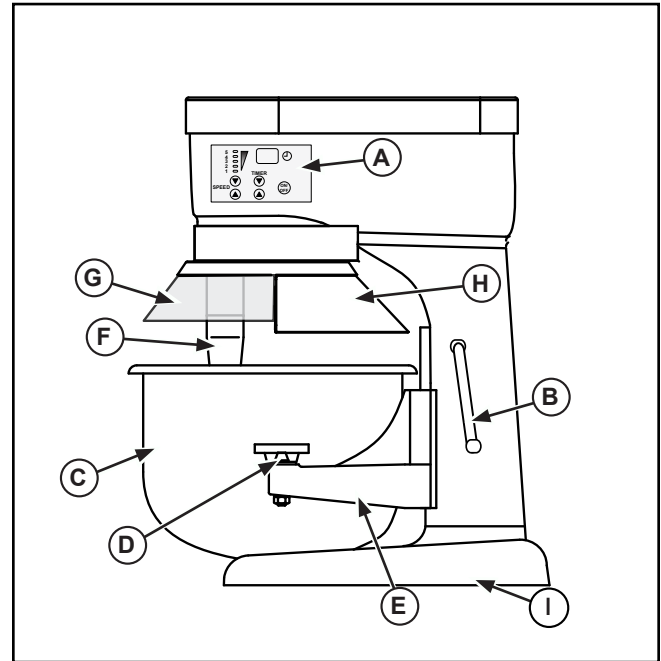

Figure 1. 7 Quart. and 10 Quart. Mixer, Features and Controls.
- Before attaching the bowl select the mixing attachment you will be using. Place your selected mixing attachment inside the empty bowl (C). Do not attempt to fit the mixing attachment onto the mixing shaft (F) before the bowl is in position. See Figures 1, 2, 3 or 4.
- Lower the bowl cradle to its lowest position by rotating the bowl lift (B) in a clockwise direction.
- Rotate the bowl clamp levers (D) to the out or back position.
- Hold the bowl (C) so that the pin on the bowl is facing in towards the mixer. Position the bowl so that the pin is lined up with the pin slot on the bowl cradle (E). Slide the pin into the slot.
- Align the holes on the bowl tabs with the pins on the bowl cradle (E). Set the bowl (C) on the bowl cradle (E).
- Rotate the bowl clamp levers (D) to the front over the bowl tabs to secure the bowl (C) onto the bowl cradle (E).
- Install the attachment to the mixing shaft (F). Ailing the groove on the attachment with the pin on the mixing shaft. Push the attachment up and rotate to lock onto the pin.
- Raise the bowl (C) to its maximum height using the bowl lift (B) by rotating in a counter clockwise direction until it snaps into place.
- Close the bowl guard (G). See Figure 1. The safety guard must be closed for the mixer to operate. If the safety guard is open or not closed properly then the mixer will not operate.